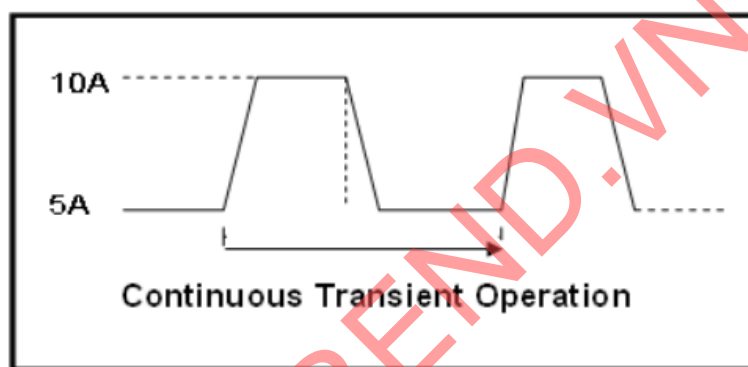

Figure 7-2-2 Continuous Transient Operation
1. Continuous mode: the electronic load will automatically switch continuously between the two set high and low values until the operation reaches the set repetition time and the test is finished. The continuous mode interface is shown in Figure 7-2-2.